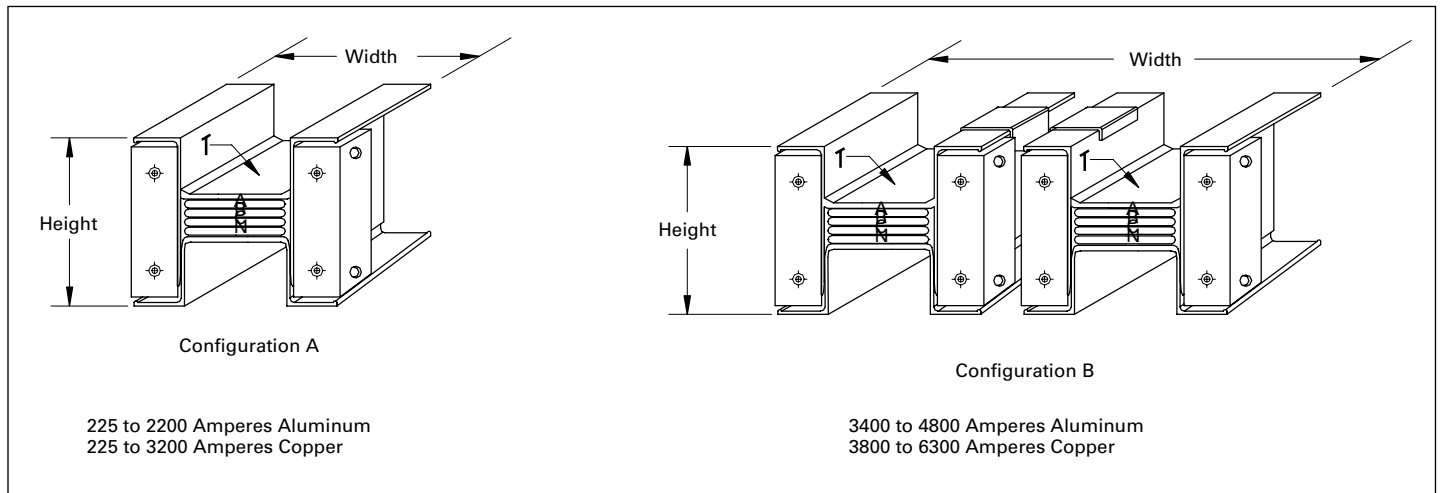

Figure 13. Pow-R-Way III cross-section dimensions
① 100% ground consists of two 50% rated internal ground bars inside of the enclosure.
② Refer to Figure 13 on Page 11 for configuration A and B.
① 100% ground available with the same dimensions, which uses 50% internal ground and 50% integral housing ground.
② Refer to **Figure 13** for configuration A and B.